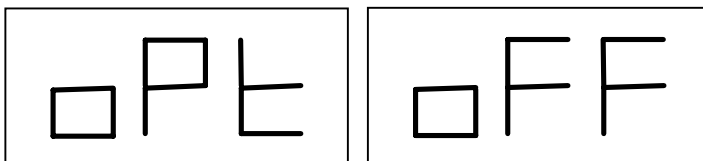
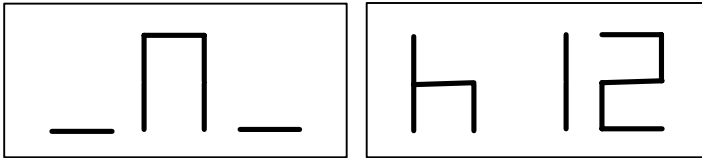

Fig. F5.2 Optimisation Programme not possible
Fig. F5.3 - "Bring the valve to the 12 o'clock position" message
2. If the wheel's static imbalance is less than 12 grams, the machine will display the message shown in Figure F5.2 for a second and then will automatically exit the optimisation programme. If the wheel's static imbalance is instead greater than or equal to 12 grams, the message shown in Figure F5.3 will be displayed;
- At the end of the cycle, the message seen in figure F5.3 will be displayed. Two options are available: